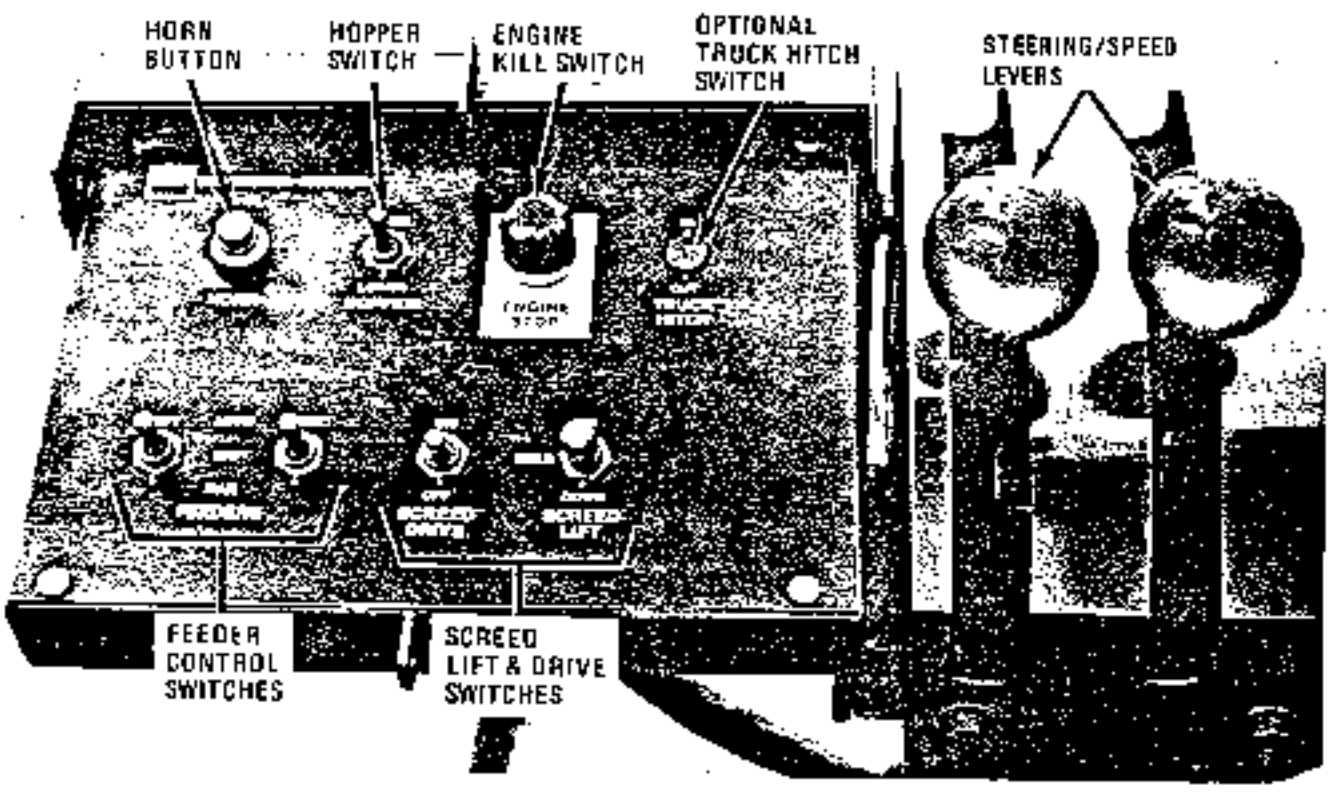

FIGURE C-2 - Operator's Control Panel
SCREED LIFT CONTROL SWITCH (Refer to Figure C-2)
SCREED DRIVE CONTROL SWITCH (Refer to Figure C-2)
FEEDER CONTROL SWITCHES (Refer to Figure C-2)
HOPPER RAISE AND LOWER SWITCH (Refer to Figure C-2)
STEERING/SPEED LEVER (Refer to Figure C-2)
EMERGENCY STOP BUTTON (Refer to Figure C-2)
2. Lower screed to desired starting position. Use screed lift switch. (Refer to Figure C-2)
- B. Before paving begins, switch feeder switches to "AUTO" position. (Refer to Figure C-2)
6. Put screed drive switch in the "on" position. (Refer to Figure C-2)